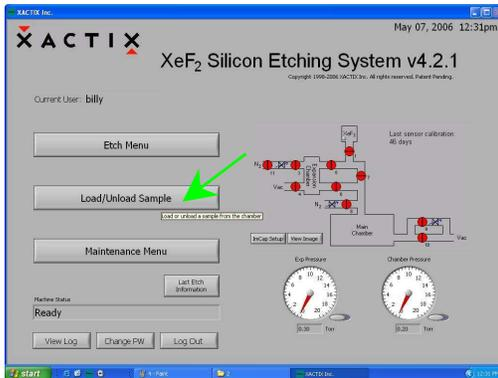

Figure 2.4
3. “Main menu” is then displayed and “Ready” is indicated in the “Machine status”. (Figure 2.4). Click the “Load/Unload Simple” button.